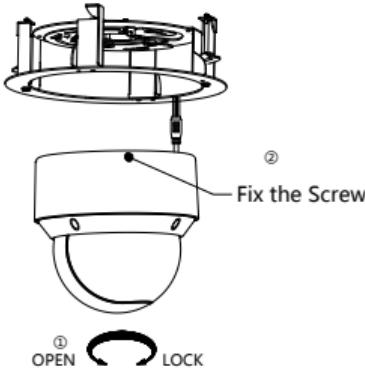

Figure 2-31 Fix the Camera
6. Fix the screws on the side with a screwdriver, as shown in Figure 2-31.